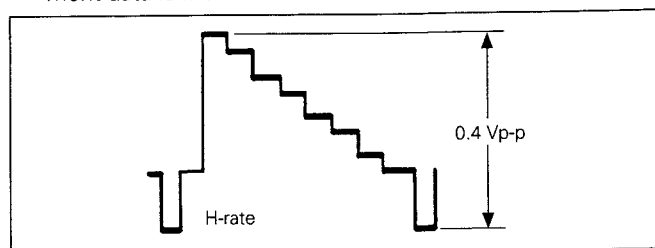

Fig. 3-4-4 Sub emphasis input level
- (1) Connect an oscilloscope to TP204.
- (2) Adjust **SET** or **SELECT** button for $110 \pm 4\%$ (S-VHS), $90 \pm 4\%$ (VHS) white clip and $70 \pm 8\%$ (S-VHS), $45 \pm 8\%$ (VHS) dark clip as shown in Fig.3-4-4.
- (3) Set normal VCR mode by pressing **MENU** button so adjustment data is memorized.